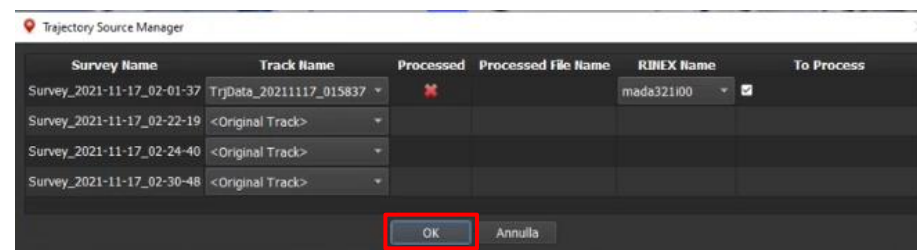
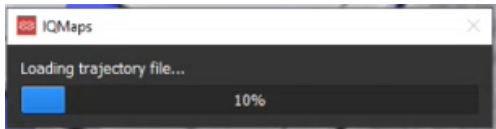

Fig. 87 – Trajectory correction start
Fig. 88 – Loading bar of Trajectories processing
3. Press  (red square Fig. 87) to start the trajectories correction process; a loading bar (Fig. 88) will update the User about processing status;